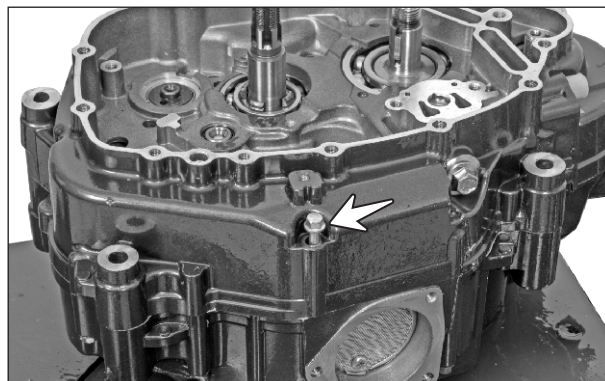

Fig. 3.190
- Assemble and tighten hexagonal flange bolt (M6x55 - 1 no.) on the crankcase complete RH. (Fig. 3.190)